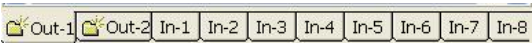

figure 3-28
- 1、 select a port which input service information (SI), such as figure 3-28,select In-1